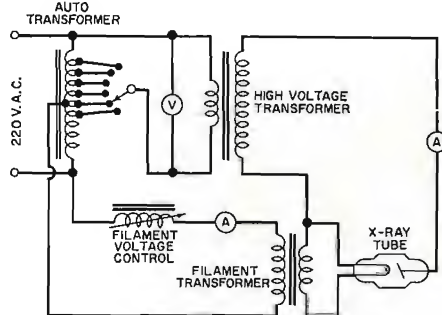

Fig. 4. Basic, high-voltage, x-ray circuit. Tube itself serves as rectifier.
Fig. 4 shows free-field response curves of the experimental enclosure with a JBL LE8 and a JBL D216 installed. This leads us to issue a word of caution: I have a distrust of published "response curves" because no little squiggly line can possibly delineate the listening quality of a loudspeaker system. Consequently, if you must look at curves, please try to find out as much as possible about how they were made before comparing them. And then don't believe everything you see until you have a chance to hear the systems in question. Enough said!
The curves in Fig. 4 were run with the experimental enclosure lying on its back on a 12-foot-square platform on top of a building. A calibrated microphone was suspended 6 feet from the speaker 45 degrees off-axis.
Fig. 4. Free-field response of two of the 8" loudspeakers used in the experimental enclosure. The loudspeaker whose acoustic response is shown in part (B) of the figure is about twice as expensive as the speaker whose response is shown at (A).
An elementary circuit for an x-ray machine is shown in Fig. 4. Basically, it is simply a power supply designed to furnish the filament and plate voltages needed to operate the x-ray tube. The principal components, other than the x-ray tube, are an autotransformer, a high-voltage transformer, a filament transformer and, sometimes, a rectifier unit with one or more rectifier tubes. The autotransformer (so called because both primary and secondary are combined in a single winding) permits the 220-volt source to be varied in steps over a considerable range. The voltage thus selected becomes the input to the high-voltage transformer, which supplies plate voltage for the x-ray tube. In this way the plate voltage can be adjusted by adjusting the autotransformer.